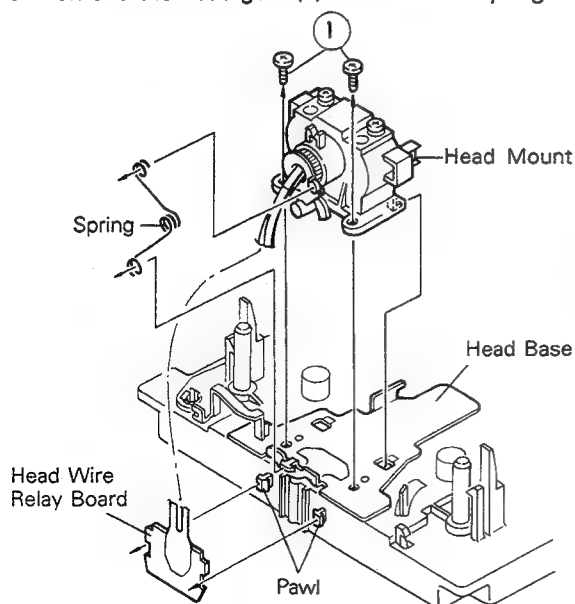
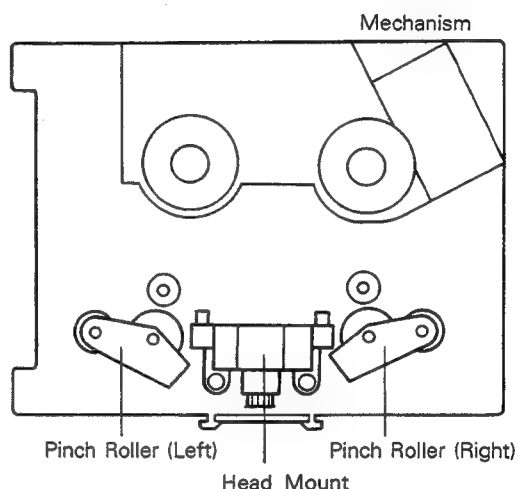
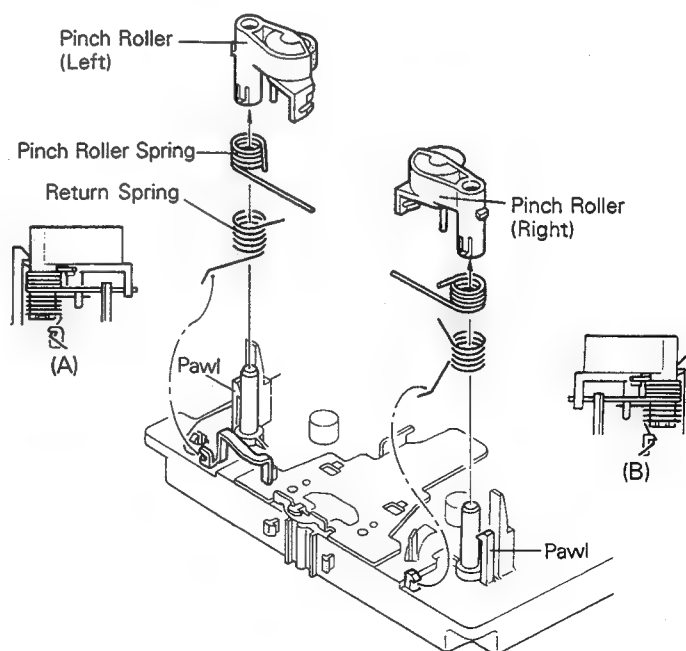

Fig. 7-16
Fig. 7-15
Fig. 7-17
■ Head mount assembly (Fig. 7-15, Fig. 7-16)
2. Remove two screws (1) retaining the head mount assembly from the head base.
3. Remove the head gear (1) and the head spring.
■ Pinch roller assembly (Fig. 7-15, Fig. 7-17)
3. For re-engaging the springs, see the figures of (A) and (B).